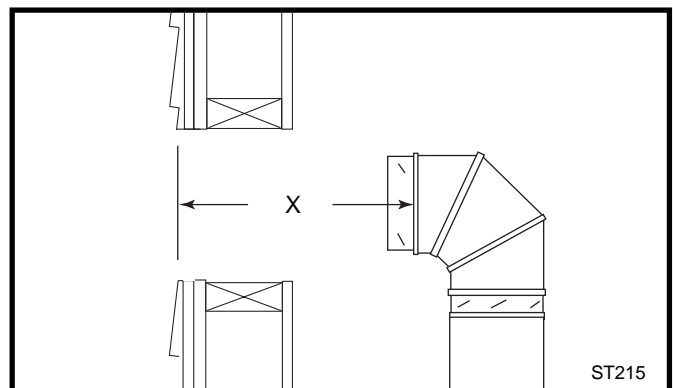

Fig. 31 Measure the horizontal length.
7. Measure, and cut if needed, the appropriate length of pipe section needed to make the connection through the wall. Include a 2" overlap; i.e. from the elbow to the outside wall face, about 2" or the distance required if installing a second 90° elbow. (Fig. 31)